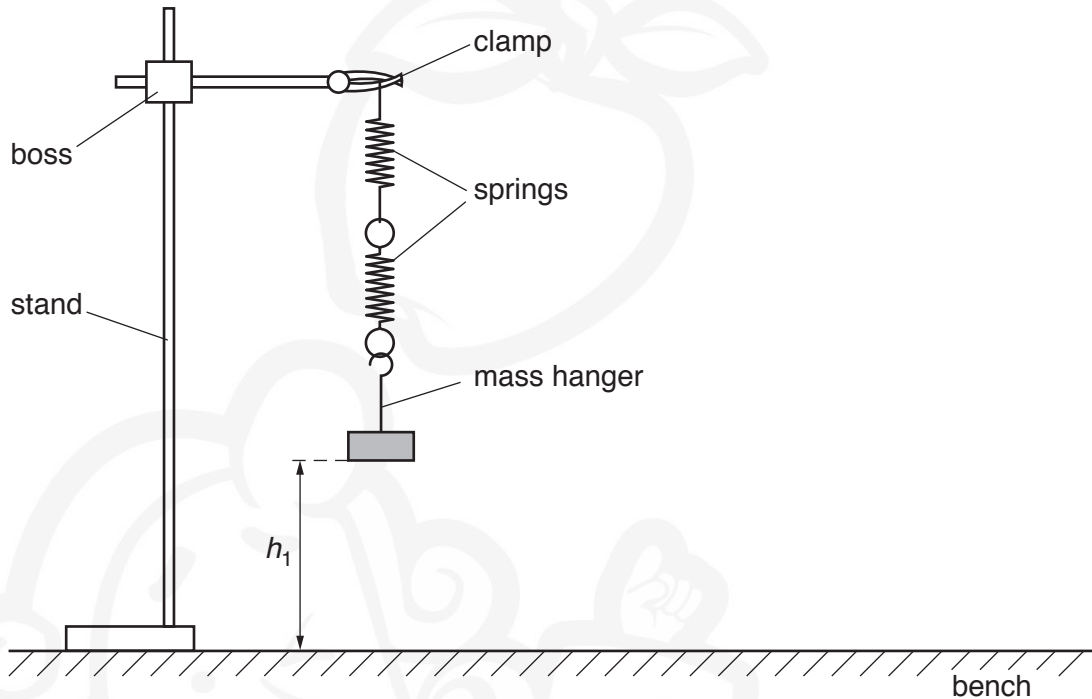

Fig. 2.1
- (a) (i)** You are provided with two joined springs and three joined springs. Using the **two** joined springs, set up the apparatus as shown in Fig. 2.1.
- (ii)** Measure and record the height h_1 of the bottom of the mass hanger above the bench, as shown in Fig. 2.1.